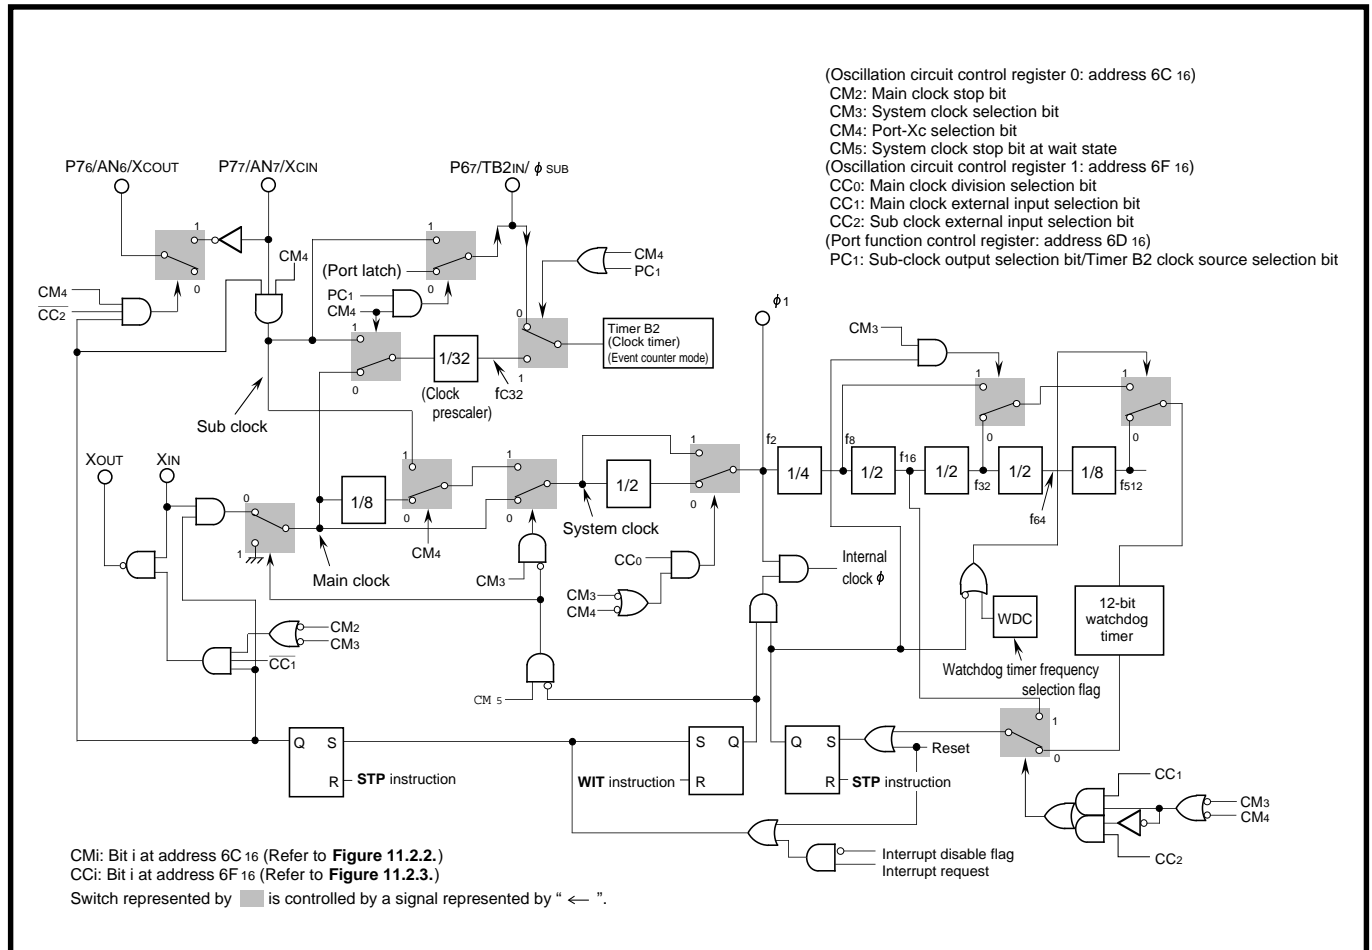
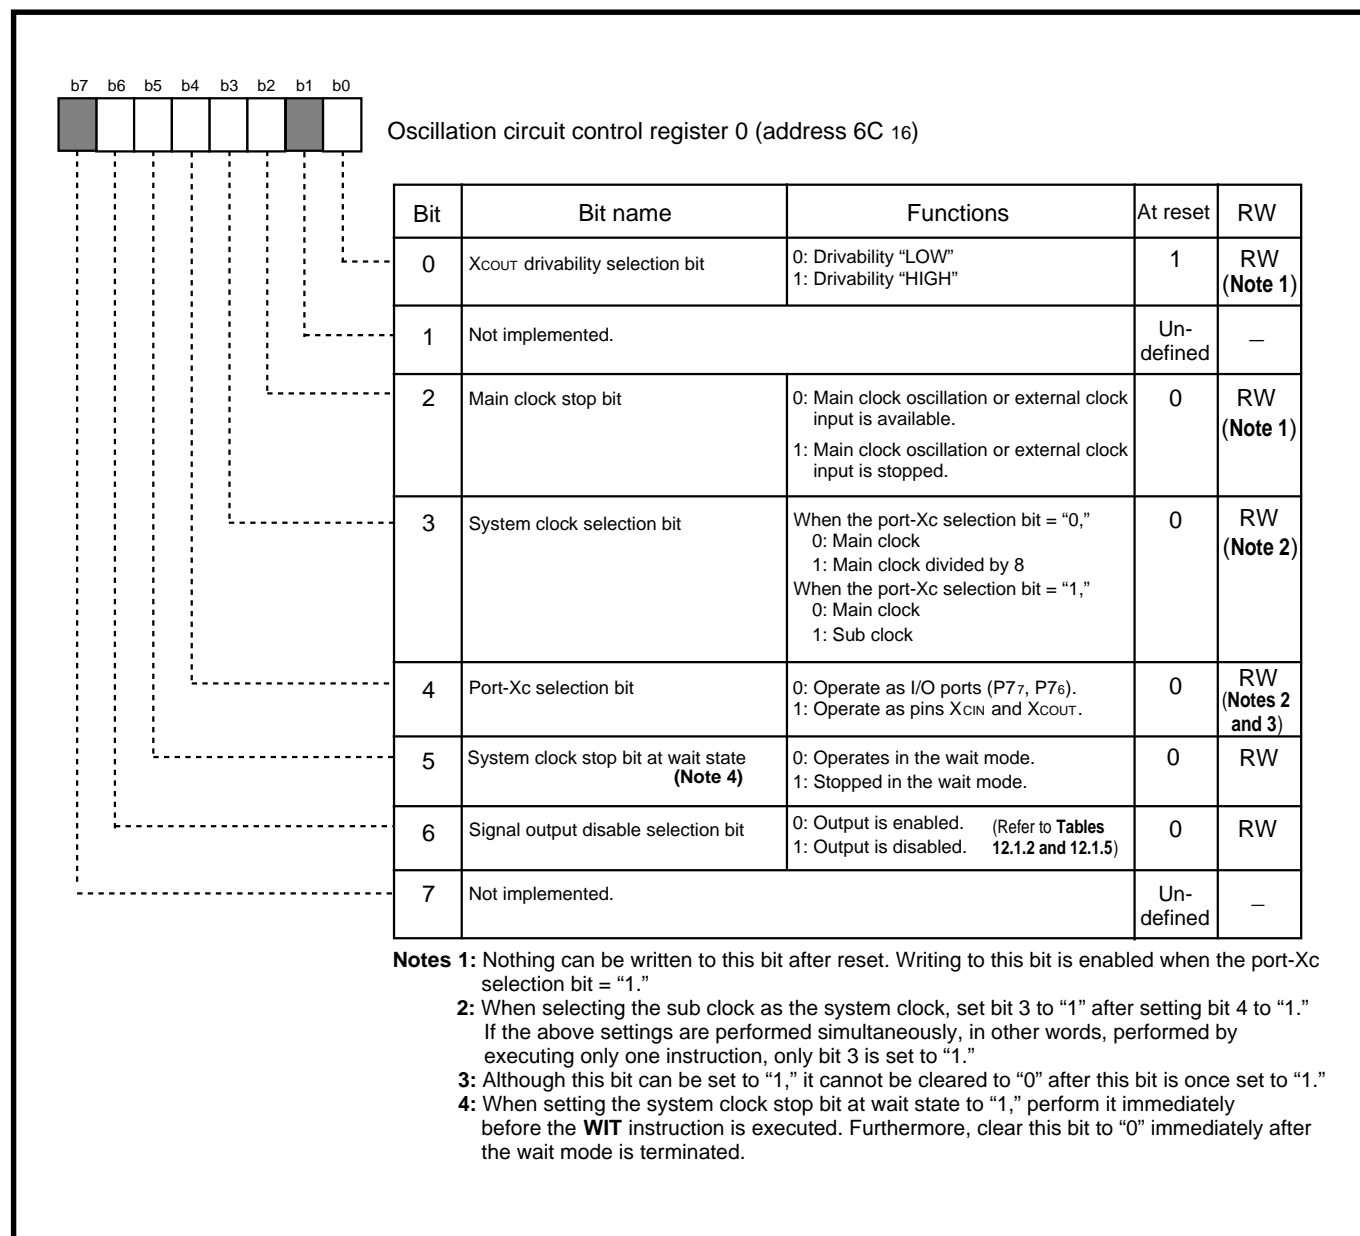

Fig. 11.2.1 Block diagram of clock generating circuit (with STP and WIT instructions)
Fig. 11.2.2 Structure of oscillation circuit control register 0
Clocks f2 to f512, clock ϕ ^{*2}: Refer to **Figure 11.2.1**.
Figure 11.2.1 shows the block diagram of the clock generating circuit (with the **STP** and **WIT** instructions). Figures 11.2.2 and 11.2.3 show the structures of the oscillation circuit control register 0 and oscillation circuit control register 1, respectively.
Clocks f2 to f512^{*1}, clock ϕ ^{*2}: Refer to **Figure 11.2.1**.
- ① When an interrupt request occurs, an oscillator starts oscillating. Simultaneously, supply of clocks f_2 to f_{512} starts.
- ② By start of oscillation, the watchdog timer starts counting. The watchdog timer counts f_{32} when the system clock selection bit (bit 3 at address 6C16; Refer to **Figure 11.2.2.**) = “0” or f_8 when the system clock selection bit = “1.”
- ③ When the watchdog timer’s MSB becomes “0,” supply of internal clock ϕ starts. At the same time, the watchdog timer’s count source returns to a count source (clock f_{32} or f_{512}) which is selected by the watchdog timer frequency selection flag (bit 0 at address 6116).
- ④ The interrupt request which occurs in ① is accepted.